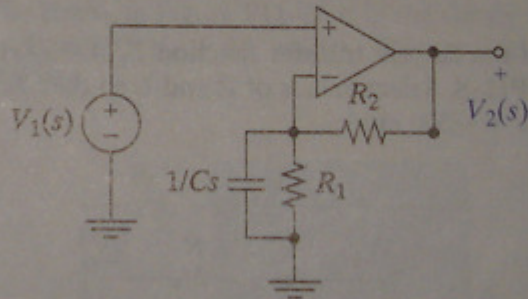

FIGURE P11-4
- 11-4 Find the driving-point impedance seen by the voltage source in Figure P11-4 and the voltage transfer function $T_V(s) = V_2(s)/V_1(s)$.